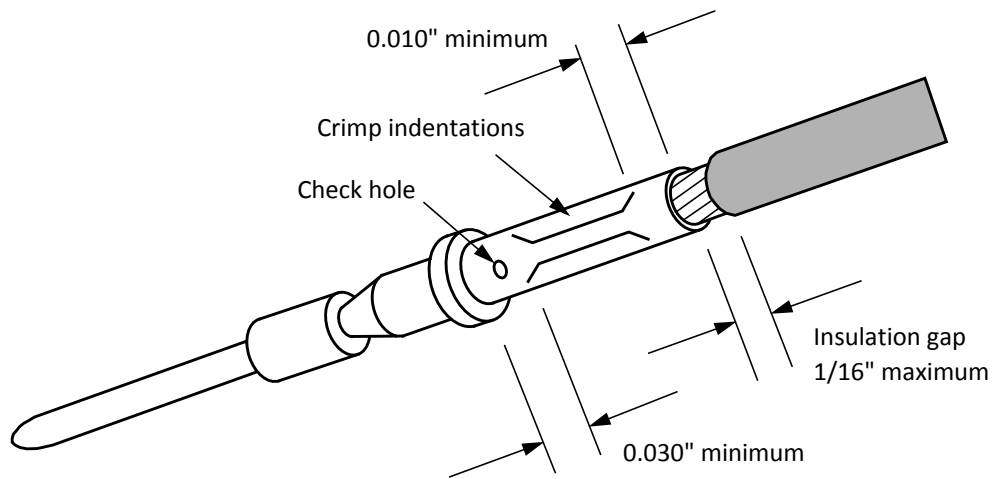

Figure 6. Typical Crimped Contact
- 6.3 The insulation gap (see Figure 6) shall be no more than 1/16".
- 6.6 Crimp indentations shall be approximately centred on the wire barrel (see Figure 6). Indentations shall be no closer than 0.030" from the contact shoulder and no closer than 0.010" from the end of the wire barrel.